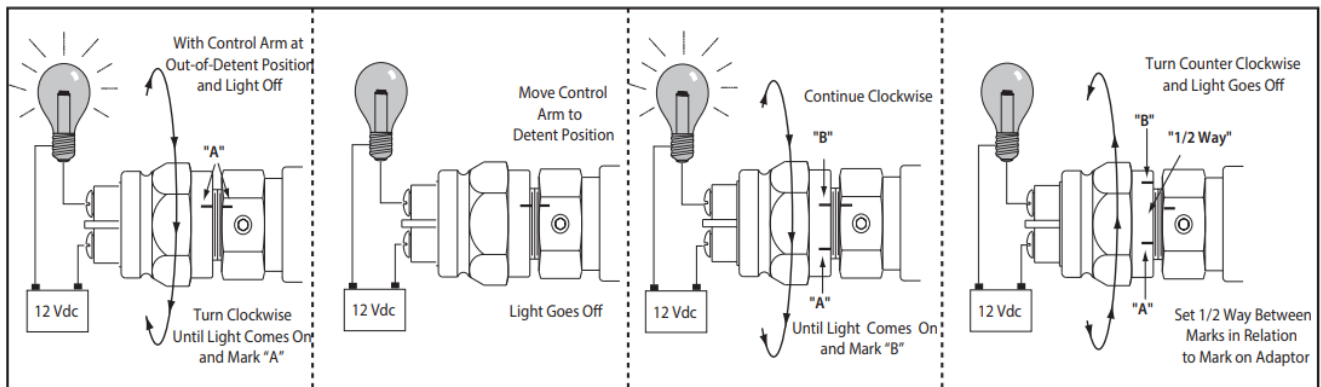

Figure 3-3
- **(c).** Screw the switch in until the light just comes on. Mark this as position “A” with two adjacent marks on the switch and adapter. Refer to Figure 3-3 below. Move the control arm to the detent position and the test light should go back off.
- (e). Back out the switch one half the distance between “B” and “A”. Refer to Figure 3-3. Torque either hex socket head set screws to 3.2 to 3.8 N·m [28 to 34 lbf·in.] One screw may be inaccessible and does not need to be tightened.